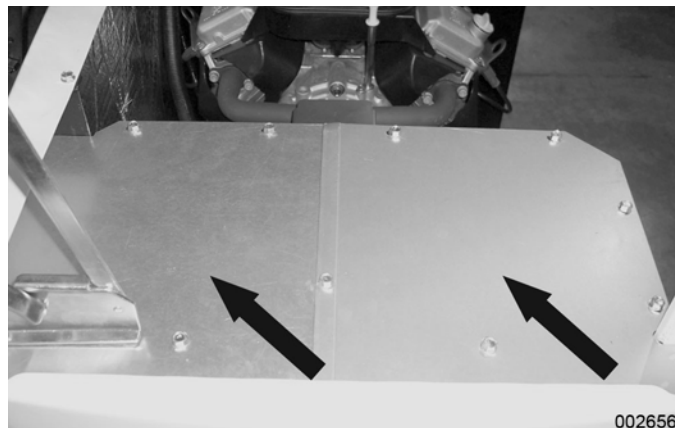

Figure 5-46.
1. **Remove Top Exhaust Enclosure Covers:** See Figure 5-46. Use a 10 mm socket to remove the nine bolts from the exhaust top covers. Remove covers.